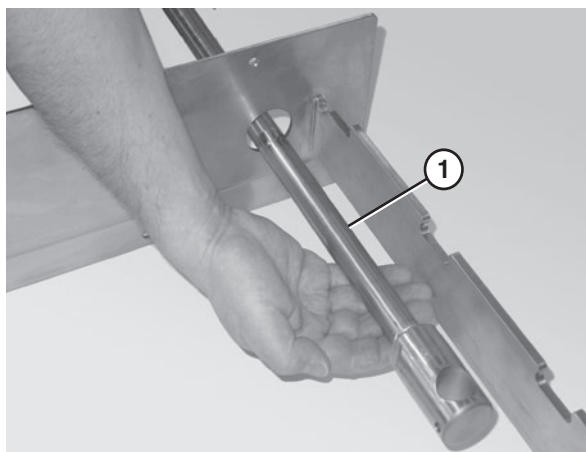

Figure 20
1. Slide the tip up shaft (**Figure 20, item 1**) through the designated slots in the frame.